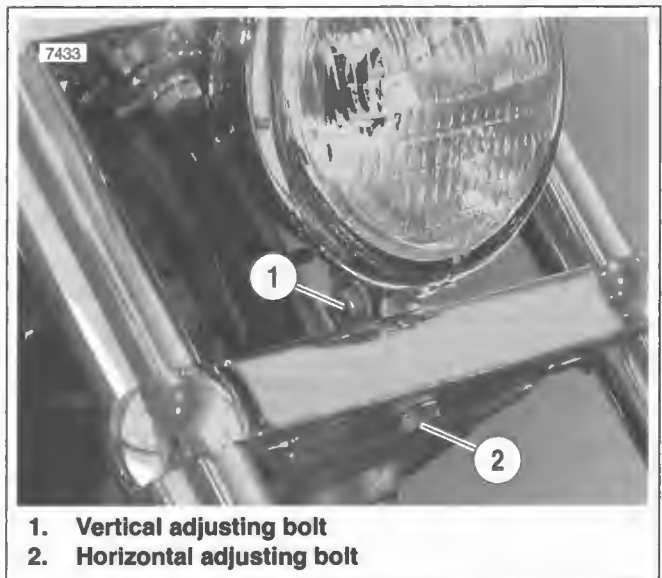

Figure 1-60. Headlamp Adjustment: FLSTC, FLSTF, FLSTN, FXST, FXSTB, FXSTC
1. See Figure 1-60. Loosen horizontal adjusting bolt (2) to adjust headlamp beam side to side.
3. Loosen vertical adjusting bolt (1) to adjust headlamp up or down.